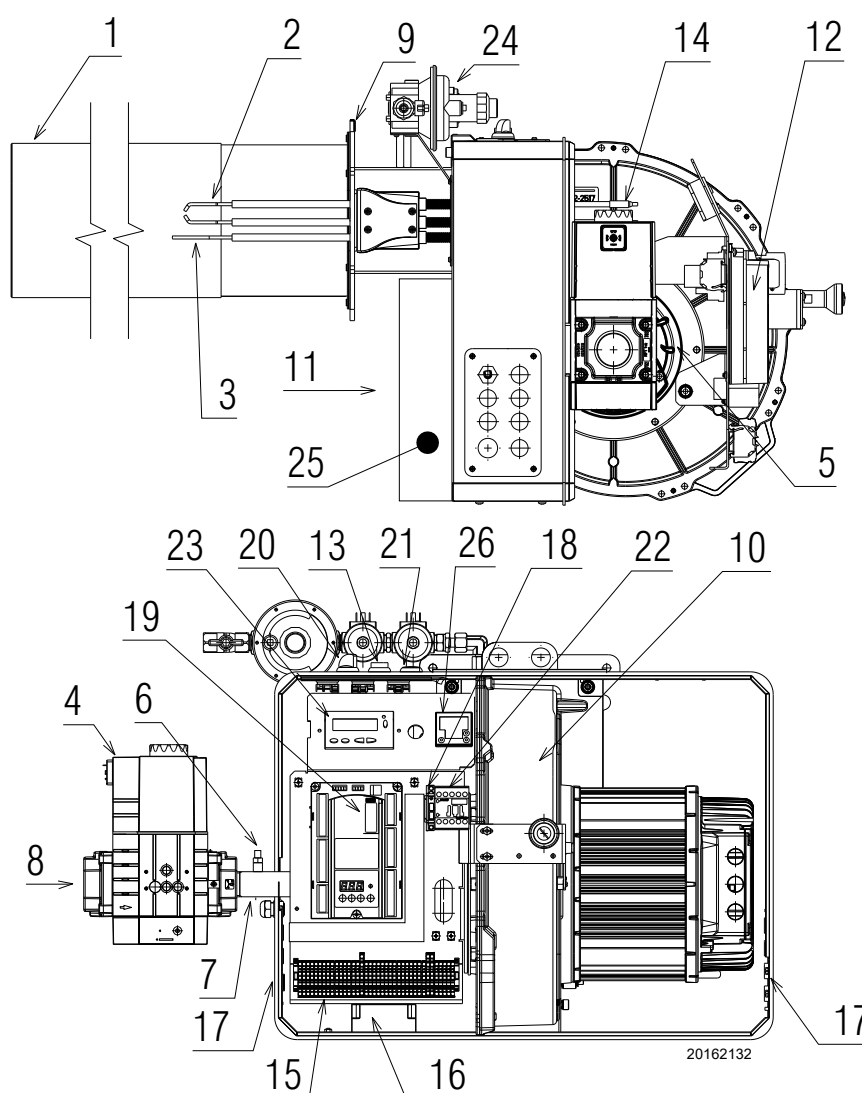

Fig. 2
(1) Reference conditions: Ambient temperature 20°C - Gas temperature 15°C - Barometric pressure 1013 mbar - Altitude 0 m a.s.l.
(2) Input gas pressure 8)(Fig. 2) with zero pressure in combustion chamber and at maximum burner output.
(3) Sound pressure measured in manufacturer's combustion lab, with burner operating on test boiler, at maximum, average and minimum modulation output. The sound power is measured with the "Free Field" method, as per EN 15036, and according to an accurate "Accuracy: Category 3" measurement, as described in EN ISO 3746.
if the button 13) lights up (Fig. 2) it signals that the burner is in lockout.